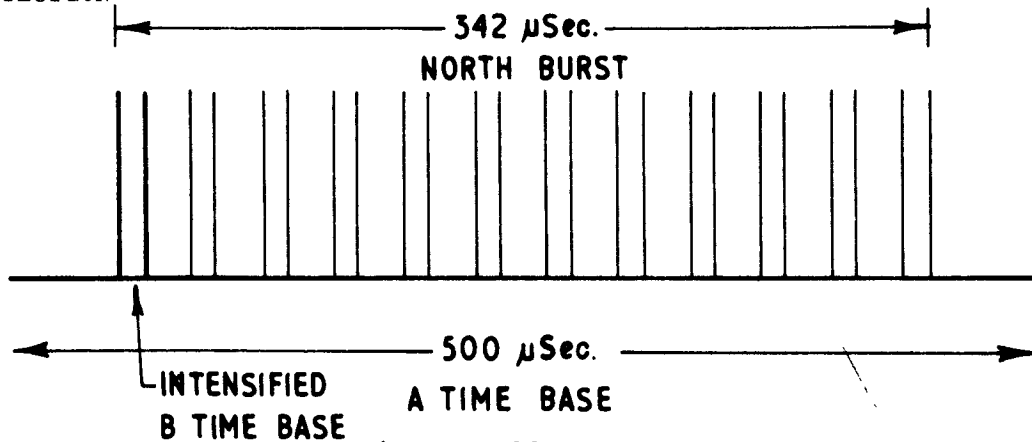

Figure 3-22
1. Depress the TRACE FINDER button and use the DELAY TIME MULT control to place the intensified B timebase onto the first pulse-pair of the North burst. (See Figure 3-22).